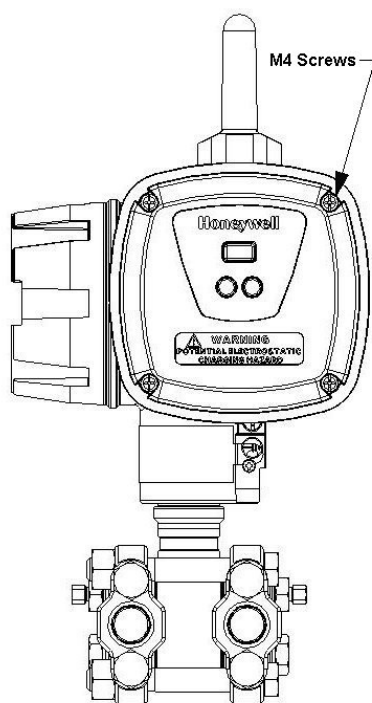

Figure 3-1 Installation, Front view
1. Loosen the four M4 screws to remove the cover, (See Figure 3-1)